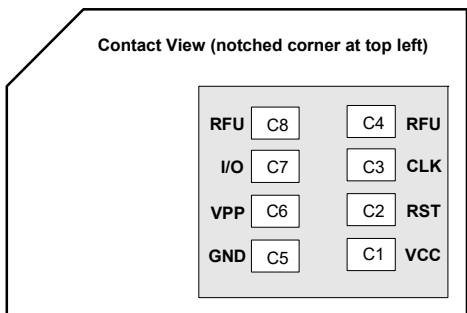

Figure 2-5: SIM Card Contacts (Contact View)
a. See Figure 2-5 on page 30 for SIM card contacts.